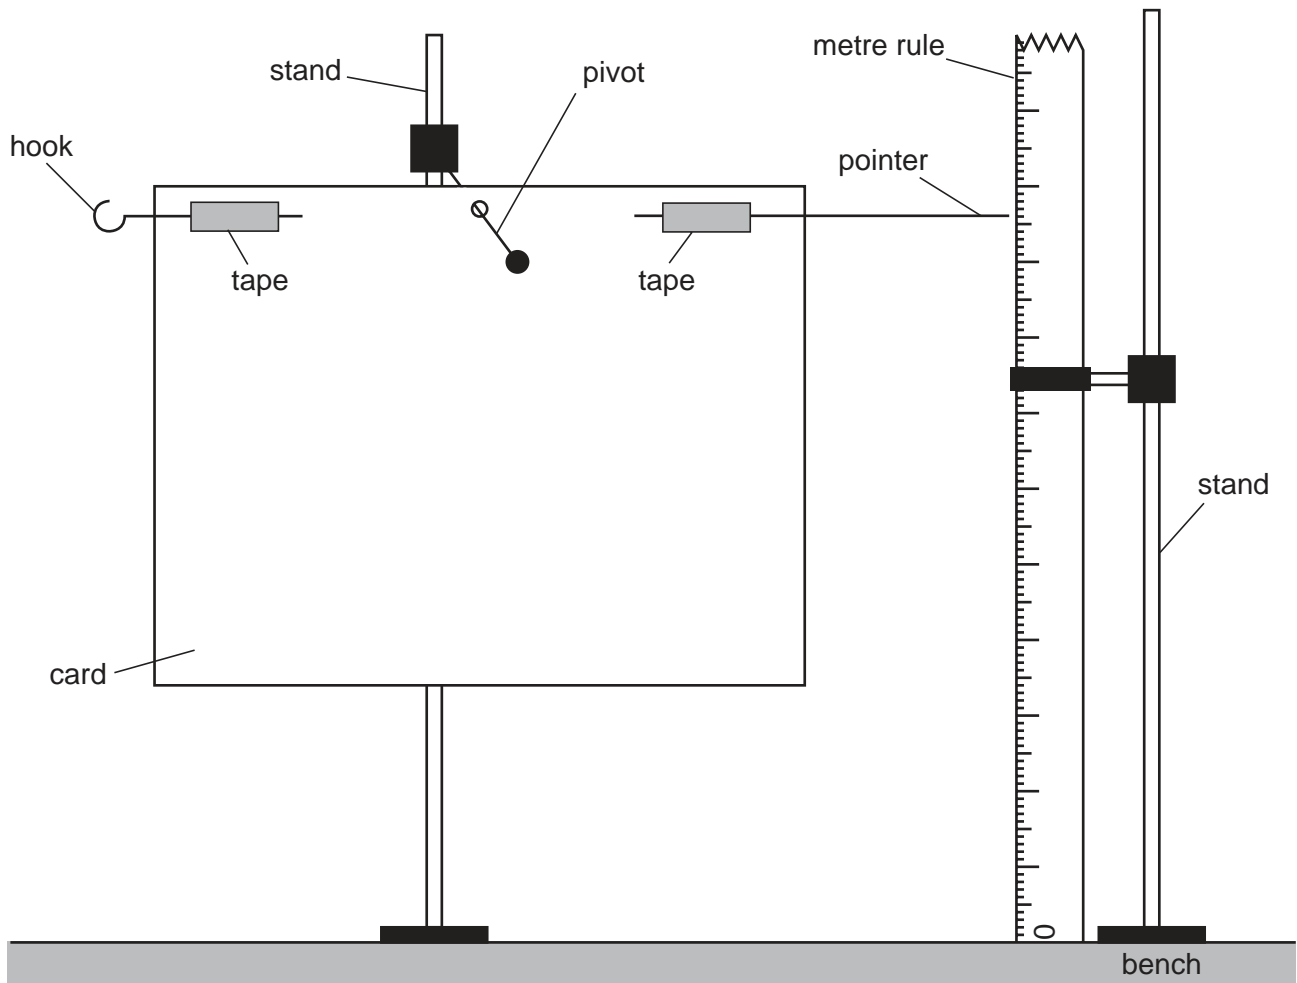

Fig. 2.1
1. One paper clip is to be straightened out and stuck near the top edge of the card to act as a pointer as shown in Fig. 2.1. A second paper clip is to be bent into a hook and stuck near the top edge of the card as shown in Fig. 2.1. The hole for the pivot should be positioned so that the card hangs approximately horizontally. The hole should be large enough to allow the card to swing freely.
3. The apparatus is to be set up for the candidates as shown in Fig. 2.1 with the zero end of the metre rule on the bench.
Arrange the apparatus as shown in Fig. 2.1.